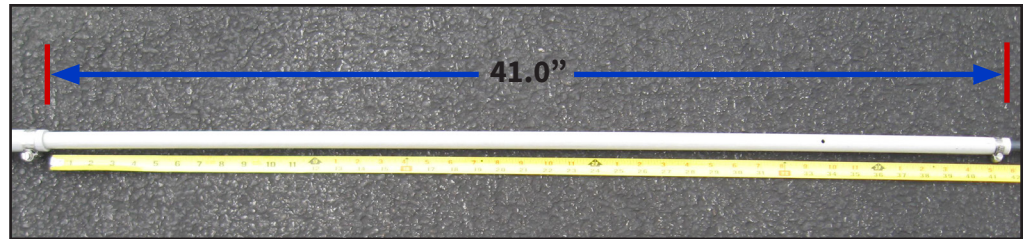

Fig. 66
- Select one of the elements and extend the end of the 0.75" OD Tube to a length of 41.0" as shown in Fig. 66. Tighten the 1.0" SS Hose Clamp.